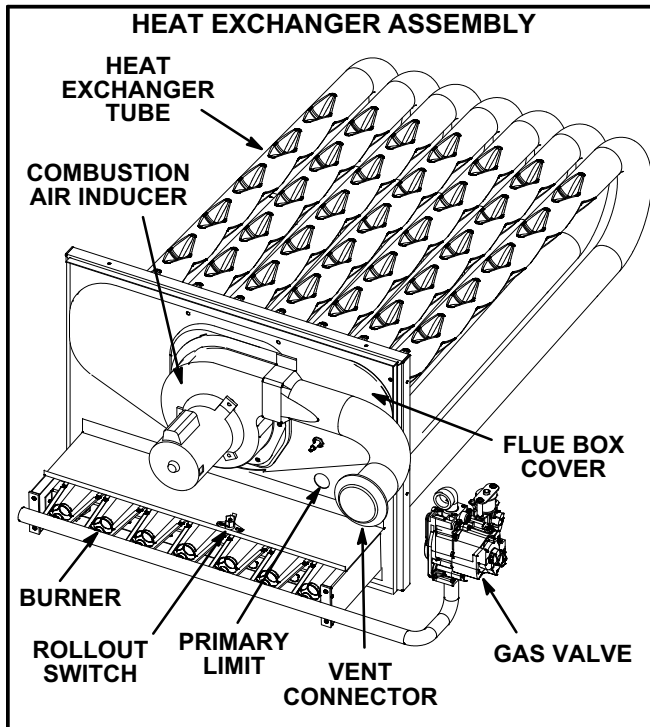

FIGURE 32
Limit controls are factory-set and are not adjustable. The primary limit is located to the right of the combustion air inducer. See figure 32.
- 4- Remove and retain screws securing combustion air inducer to flue box. Remove vent connector. See figure 32.